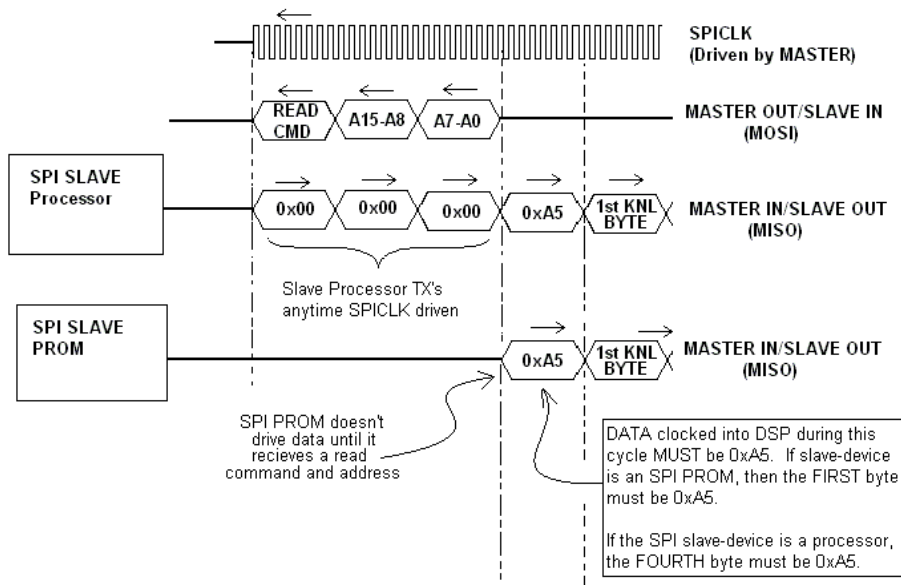

Figure 6-1. SPI Master Mode Booting Using Various Serial Devices
Figure 6-1 shows the initial 32-bit word sent out from the processor. As shown in the figure, the processor initiates the SPI master boot process by writing an 8-bit opcode (LSB first) to the slave device to specify a read operation. This read opcode is fixed to `0xC0` (`0x03` in MSB first format). Following that, a 24-bit address (all zeros) is always driven by the processor. On the following $\overline{\text{SPICLK}}$ cycle (cycle 32), the processor expects the
- 1 Initial word for SPI master boot type is always 32 bits. See Figure 6-1 on page 6-14 for explanation.
- 2 Initial word for SPI PROM boot type is always 8 bits. See Figure 6-1 on page 6-14 for explanation
Typically, host processors in SPI slave mode transmit data on every $\overline{\text{SPICLK}}$ cycle. This means that the first four bytes that are sent by the host processor are part of the first 32-bit word that is thrown away by the processor (see Figure 6-1). Therefore, it is necessary for the loader to pad an extra four bytes to the beginning of the boot stream when programming the host; for example, the first byte of the kernel is the fifth byte of the boot stream. VisualDSP++ automatically handles this in the loader file generation process.